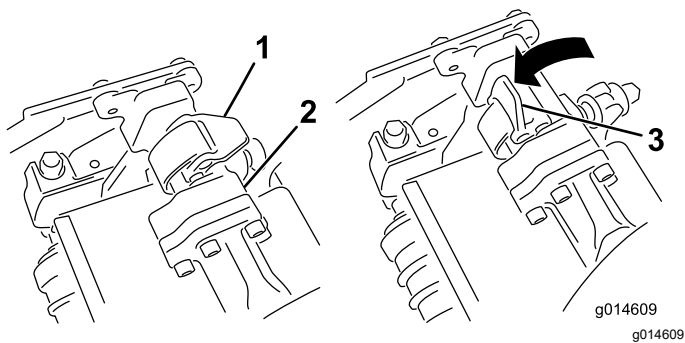
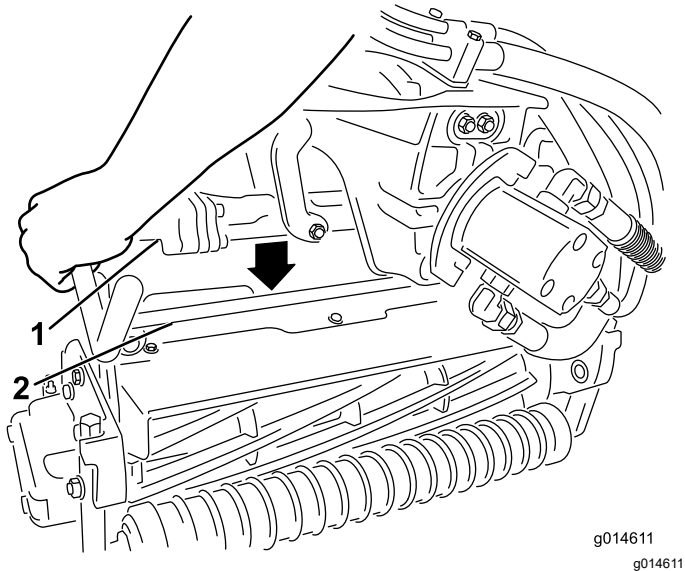

Figure 53
Figure 54
3. With the latches on the suspension-arm bar pointing up (i.e., open) (Figure 53), push the suspension arm down so that the bar fits over the bar across the top of the cutting unit (Figure 54).
4. Close the latches down and around the cutting-unit bar and lock them in place (Figure 53).
4. Open the latches on the suspension-arm bar of the cutting unit you are removing (Figure 53).